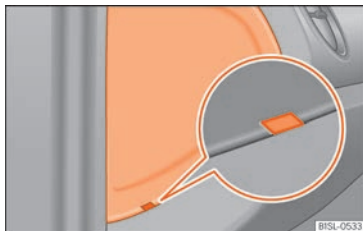

Fig. 44 On the driver's side: lid of the instrument panel fuse box.
- Fit a flat object, i.e. a screwdriver, in the groove »» Fig. 44 and carefully lever and remove the cover.